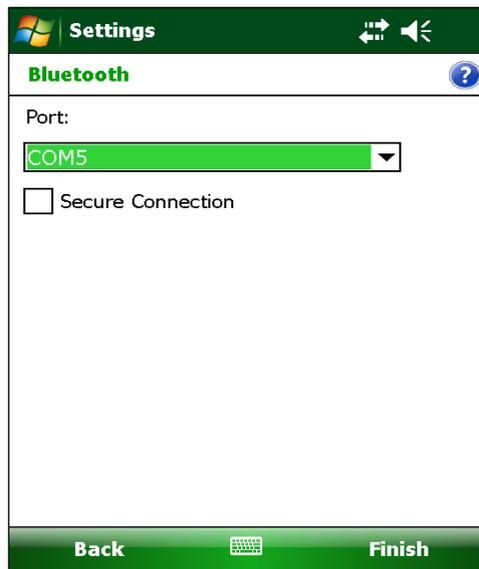

Figure 34 - COM Port Selection
- 8) From the “Port:” drop-down list, select COM6, COM7, or COM8. (The other COM Ports are used by the system and are not available.) Be sure to remember the number of the COM port as you may have to select it later in the readout software. Make sure to “uncheck” the “Secure Connection” check box (Figure 34). Tap “Finish” when done to return to the Bluetooth Settings “COM Ports” screen.